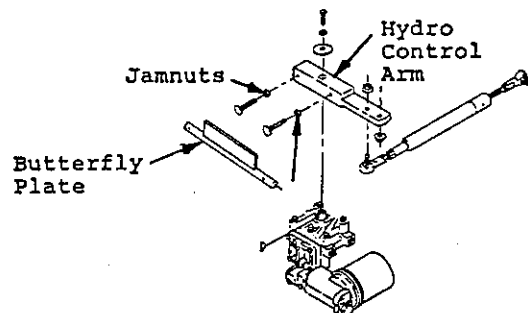

Fig. 8 Parking Brake Neutral Lockout Adjustment
- e. Replace fan and inlet screen. See Figure 8.